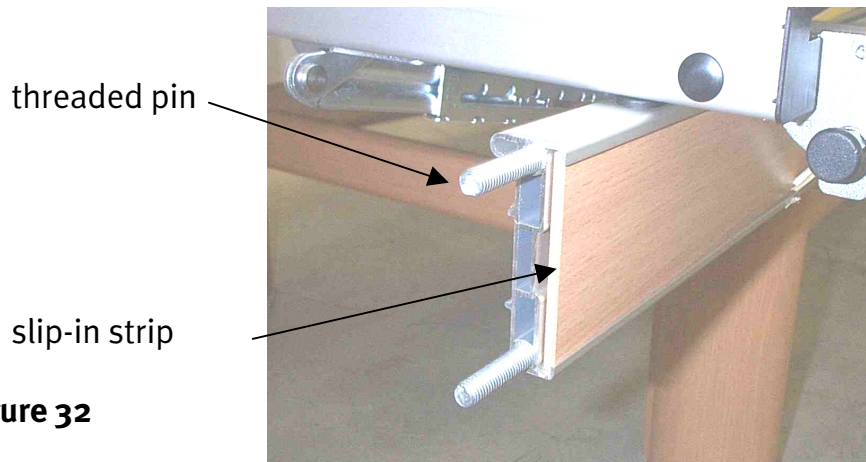

Figure 32
- Screw 2 M8 threaded pins about 5 mm into the end-faces of each side bearer (see Figure 32).